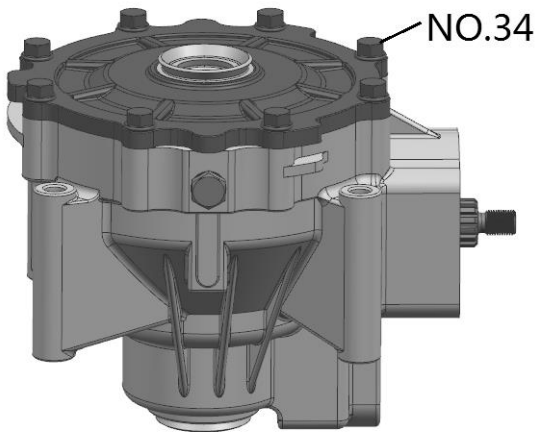

Fig 4
5.Remove Bolts M8×25 (NO.34) that secure the housing. →Fig 4